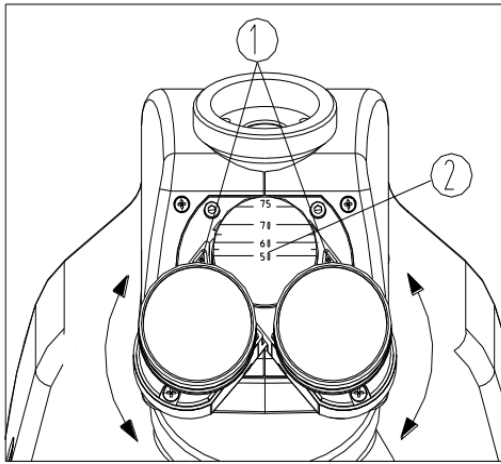

Fig.13
“o” (1) on the eyepiece base points to the scale (2) of interpupillary indication, means the value of interpupillary distance (see Fig. 13).